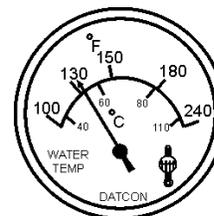

Figure 52. Coolant Temperature Gauge
- The **coolant temperature gauge** (Figure 52) will indicate the coolant temperature. Under normal operating conditions the coolant temperature should be between 167°~203°F (75°~95°C) (**Green Zone**).